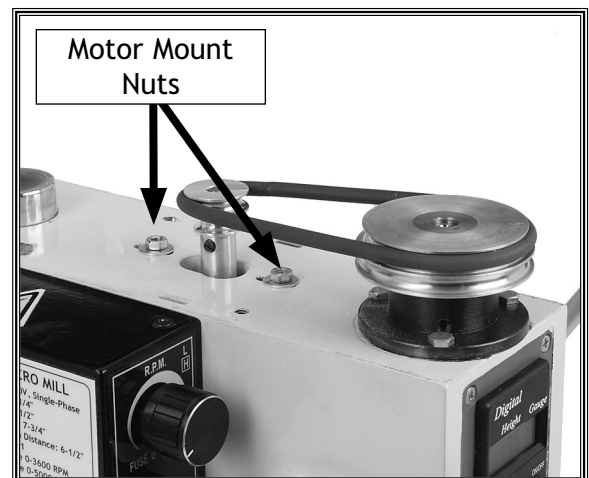

Figure 19. Spindle speed pulleys.
The variable speed dial shown in **Figure 18** controls the spindle speed and the pulleys shown in **Figure 19** control the speed range. As a general rule, smaller bits and softer material require higher speeds and less torque, and larger bits and harder materials require slower speeds and greater torque.
1. Remove the pulley cover and loosen the motor mount nuts shown in **Figure 19**.